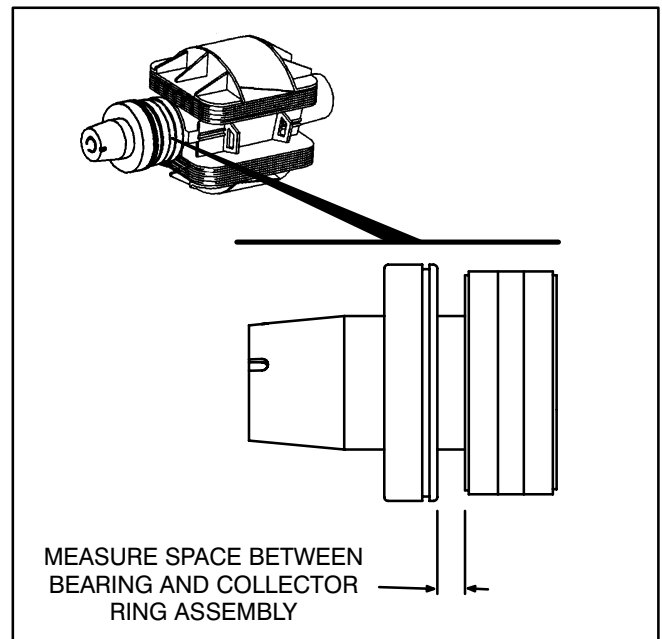

FIGURE 7-11. ROTOR BEARING SPACING
1. Measure and record the distance between the bearing and the collector ring assembly. See Figure 7-11.